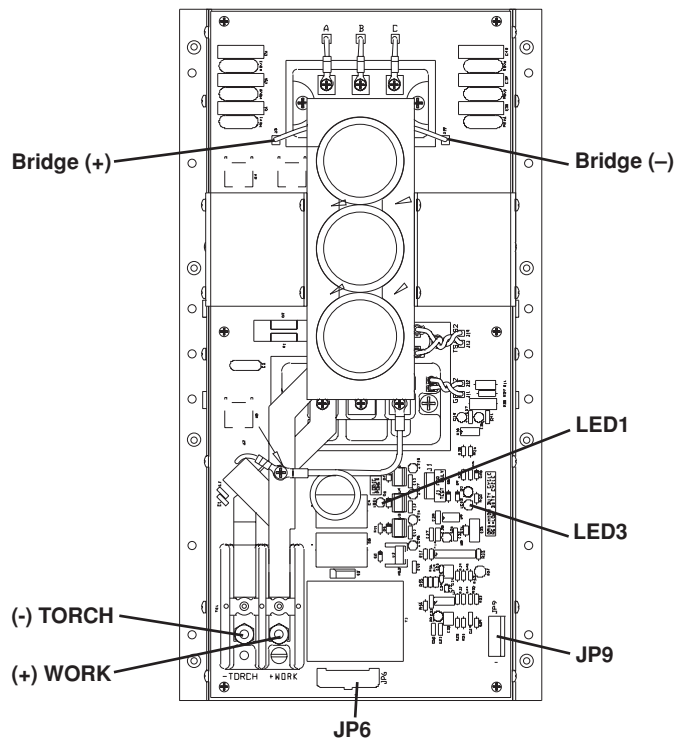

Figure 5-3 Chopper Module – Front View
3. Place the positive lead to the + side of the bridge and the negative lead to the – side of the bridge. See Fig. 5-3. Note that actual connection points are hidden by cap support bracket in Fig. 5-3.
5. If voltage from above step is +280 VDC and F5 is not blown, check output of chopper by putting the positive lead of the voltmeter at point (+) WORK and placing the negative lead on point (-) TORCH. See Fig. 5-3.